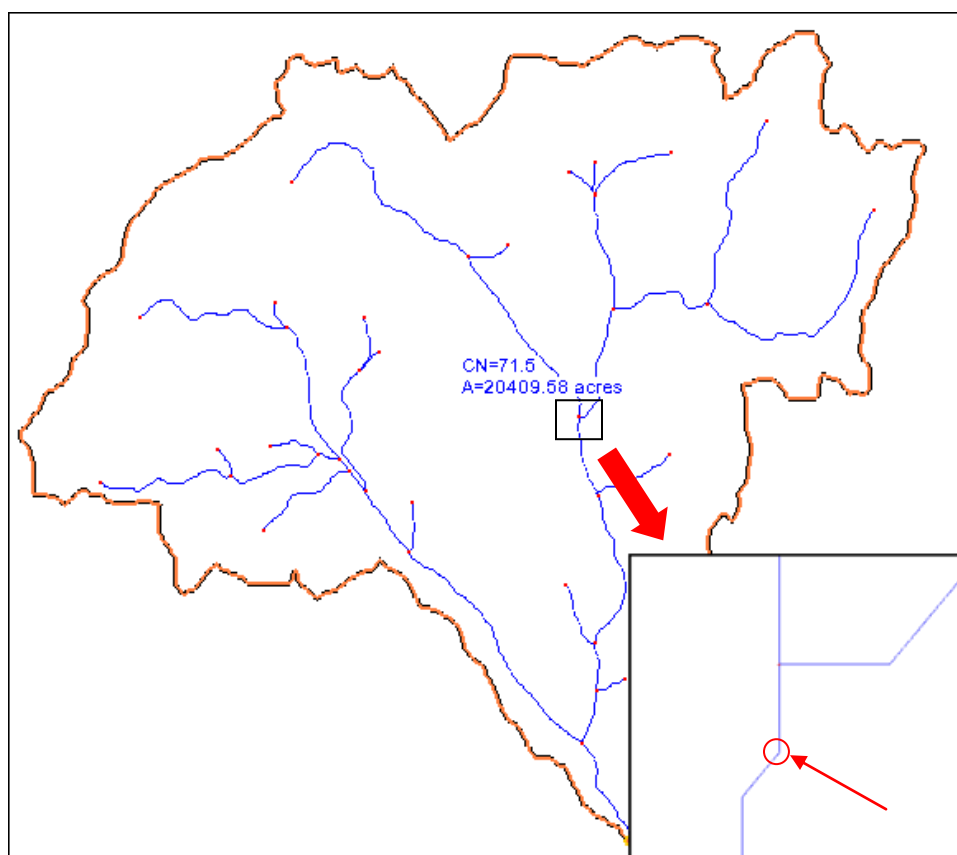

Figure 5 Zoom area, with enlarged view at bottom right
1. **Zoom**  in to the area shown in Figure 5.
7. Using the **Select Feature Vertex**  tool, select the vertex just below the main branching point (see inset in Figure 5).